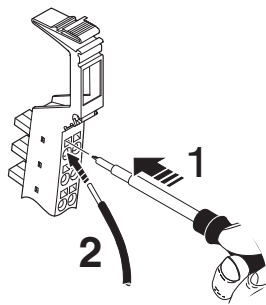

Figure 10-1 Connecting unshielded cables
- Push a screwdriver into the slot of the appropriate terminal point (Figure 10-1, detail 1), so that you can insert the wire into the spring opening. Phoenix Contact recommends using a SZF 1 - 0,6X3,5 screwdriver (Order No. 1204517).
- Insert the wire (Figure 10-1, detail 2). Remove the screwdriver from the opening. This clamps the wire.
- Push a screwdriver into the actuation shaft of the appropriate terminal point (Figure 10-1 on page 123, detail 1), so that you can insert the wire into the spring opening.
- Insert the wire (Figure 10-1 on page 123, detail 2). Remove the screwdriver from the opening. This clamps the wire.